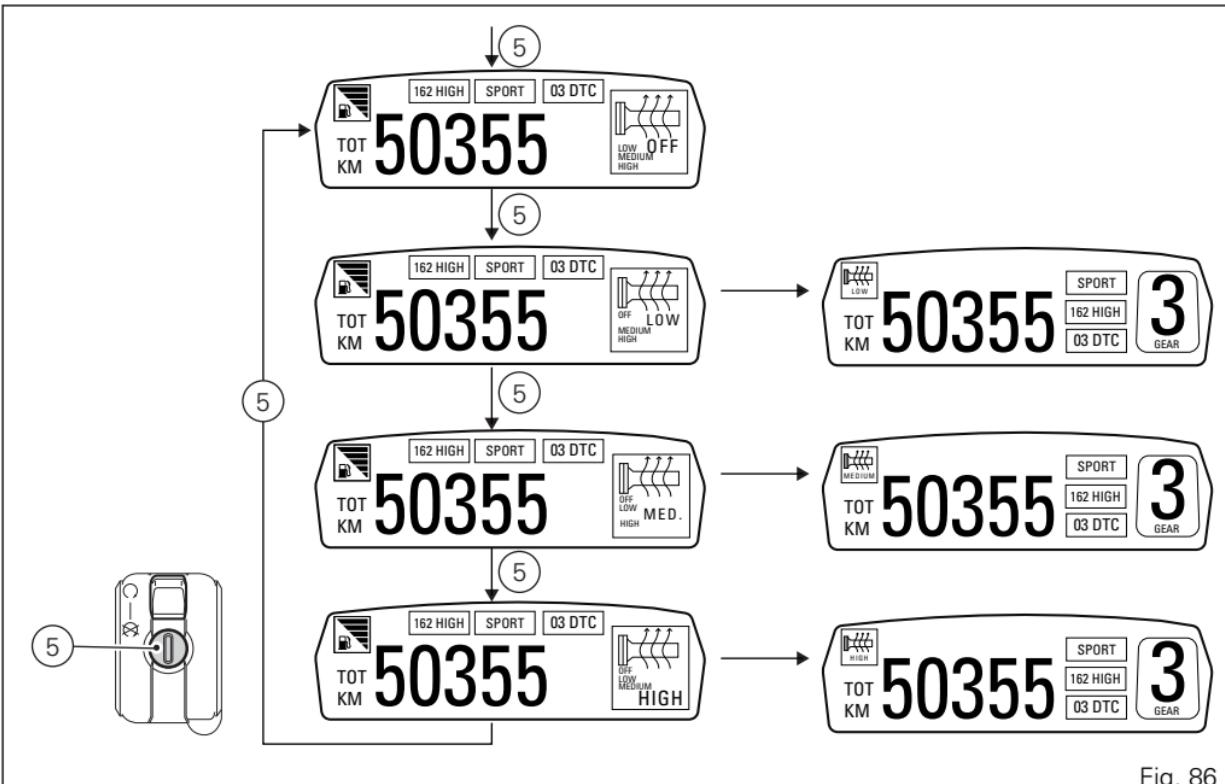

Fig. 86
- with Menu 2 disabled (Fig. 86);